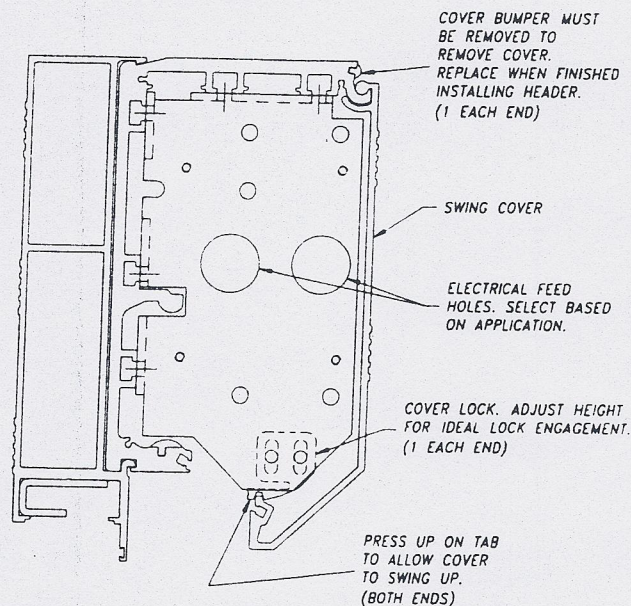

FIGURE 3: Cover Removal
1. Open the carton marked "HEADER". Remove the header and set on a piece of cardboard with the swing cover facing up. Remove the cover bumpers near the cover hinge. Do not lose the cover bumpers, as they must be re-installed to prevent the cover from coming off when opened. Using a screwdriver, press up on the cover lock tab (one each end) to disengage and open the cover. (Figure 3).